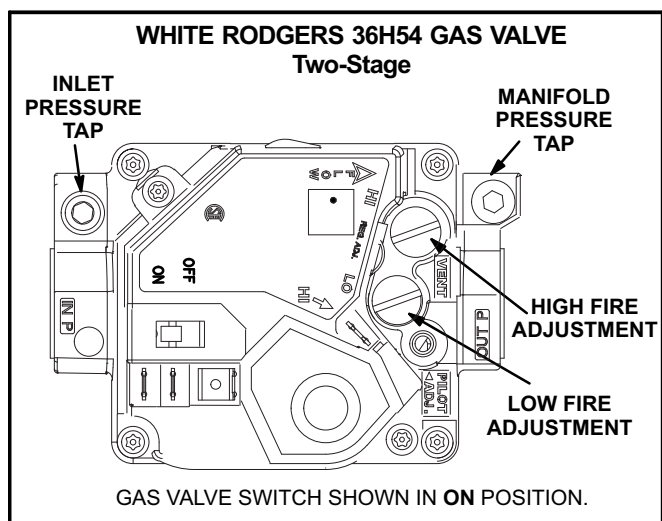
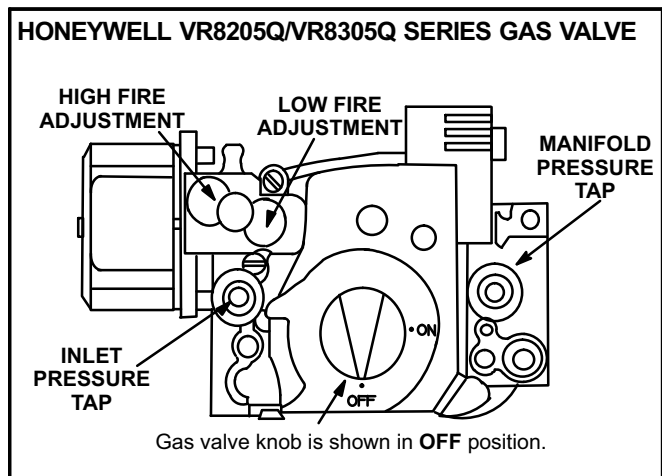

FIGURE 18
FIGURE 19
Gas Valve Operation Honeywell VR8205Q/VR8305Q and White Rodgers 36H54 (figure 18 and 19)
- 5- Turn gas valve switch to **OFF**. See figure 18. On Honeywell VR8305Q gas valves, turn the knob on the gas valve clockwise ➡ to "**OFF**". Do not force. See figure 19.
- 6- Wait five (5) minutes to clear out any gas. If you then smell gas, **STOP!** Immediately call your gas supplier from a neighbor's phone. Follow the gas supplier's instructions. If you do not smell gas, go to the next step.
- 7- Turn gas valve switch to **ON**. See figure 18. On Honeywell VR8305Q gas valves, turn the knob on the gas valve counterclockwise ⬅ to "**ON**". Do not force. See figure 19.